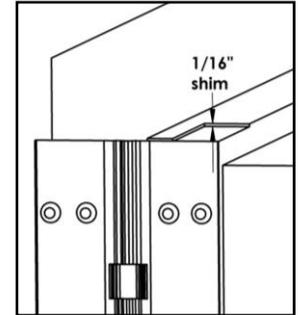

Fig. 1
**Note: A 1/16" shim is recommended due to initial settling of the bearings** (See Fig. 1).